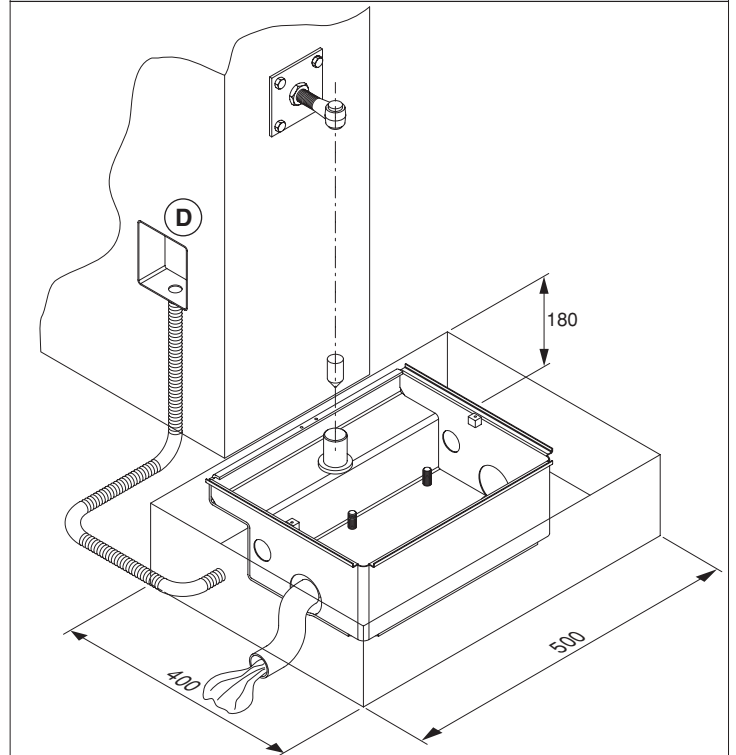
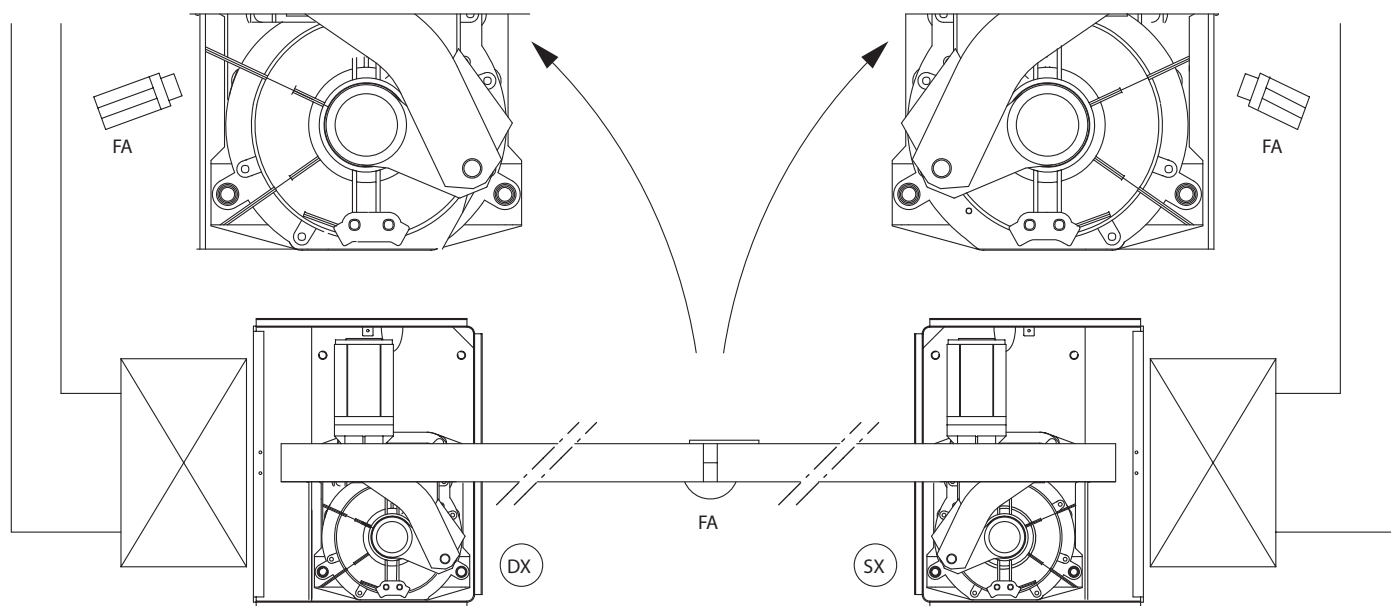

Fig. 5
Fig. 9
- Position the lever assembly by inserting pipe "A" into the pivot of the foundation case, as in fig.9. If the height of the assembled levers is not sufficient, insert shim "S" between the assembled lever unit and the gate leaf, as in fig.5.